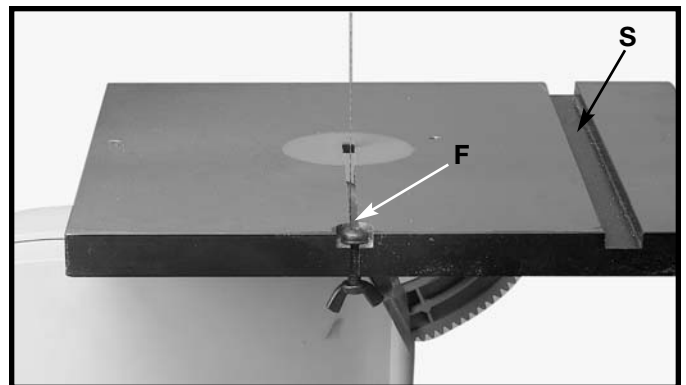

Fig. 37
4. Remove table alignment screw (F) Fig. 37.
10. To use the miter gage as shown in Fig. 40, insert the miter gage guide bar into miter gage slot (S) Fig. 37 and adjust it to the desired angle.